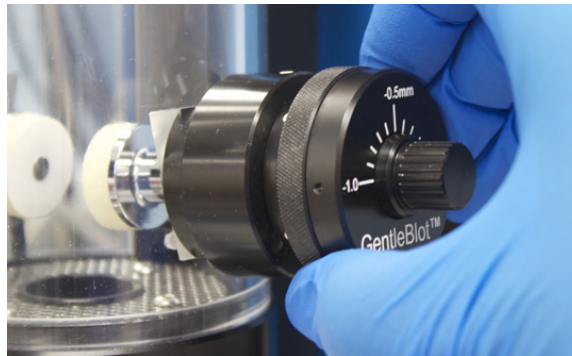

figure 1-17. Inserting/removing a blotter from the right-hand chamber flange
1. Remove the blotters from the humidity chamber by grasping the outer surface of the blotter and pulling straight out from the humidity chamber (see figure 1-17).